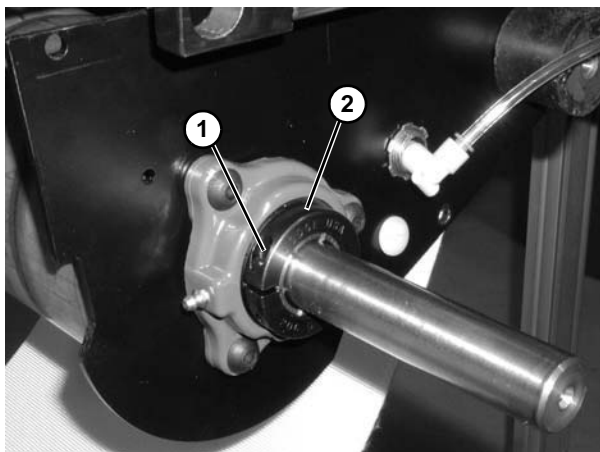

Figure 118
6. Loosen clamp screw (Figure 118, item 1) and remove bearing collar (Figure 118, item 2).